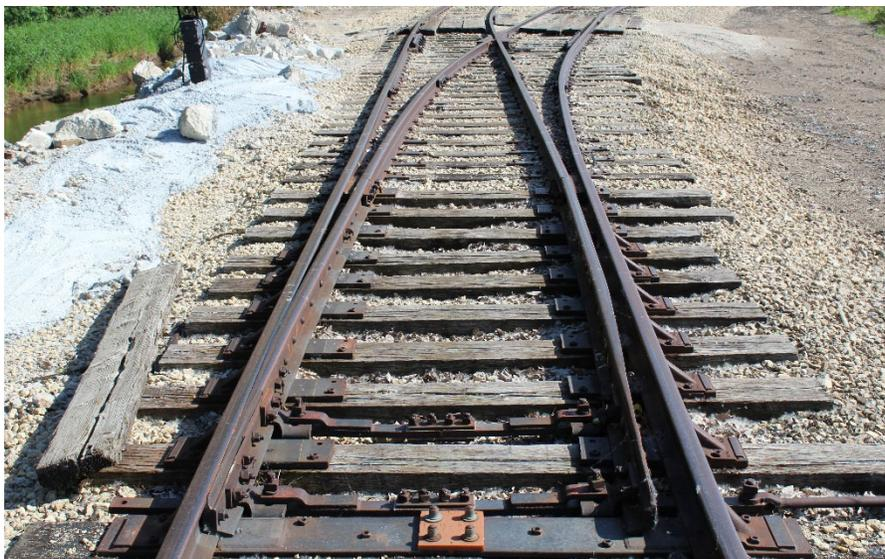

Figure 12: A typical railroad turnout
7. After the students have discussed the problem, explain the concept of a passing siding and that building a short section of second track could allow the trains to pass each other. A picture of a real turnout (Figure 12) next to a BRIO turnout can help illustrate the concept of how trains can switch to the second track at either end of the passing siding.